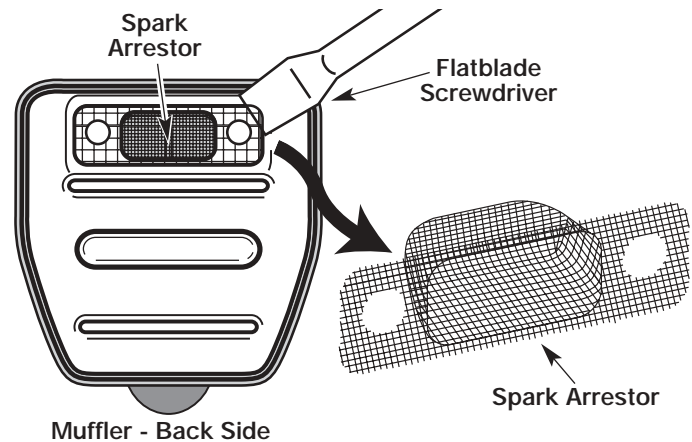

Fig. 29
4. Using a small flatblade screwdriver, carefully pry up the spark arrester from the recessed hole (Fig. 29). Remove the spark arrester from the muffler.
5. Clean the spark arrester with a wire brush. Replace it if it is damaged or if it is impossible to clean thoroughly (Fig. 29).